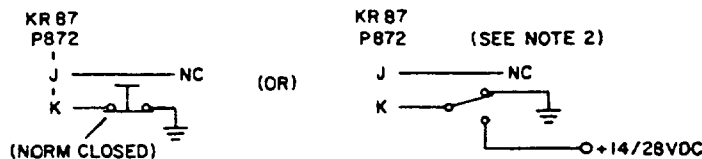

**FIGURE 2-1 EXTERNAL RESET WIRING USING
- (1) A momentary or prolonged ground on pin J will reset the timer. To reset the timer after a prolonged ground on pin J, the connection must be momentarily opened and then regrounded. This can be wired in a number of ways, examples of which are shown in **Figure 2-1** below. If desired, a pressure sensor (P/N 071-01247-0000 or equivalent) can be used as the flight timer reset switch. Refer to **Figure 2-25** for further information.